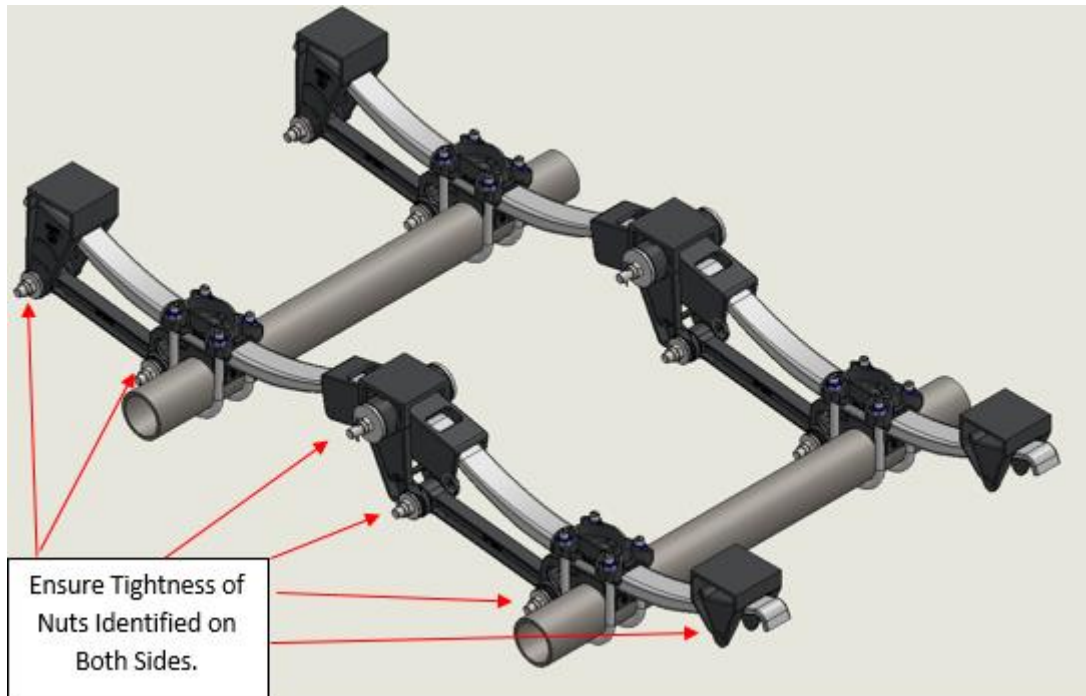

Figure 24 Showing Tightening Points for a RSC and YSC Suspension
2. Ensure tightness of the nuts identified in Figure 24 on each side and Figure 25 if applicable.